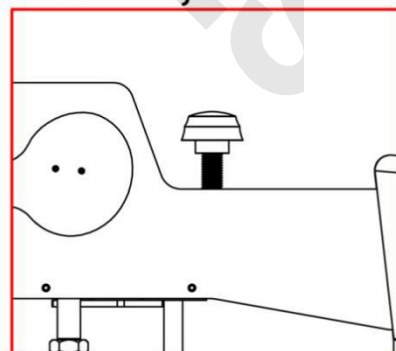

Figure 2
- The Pressure Adjustment Knob is located in the center of the heat platen(See figure 2)